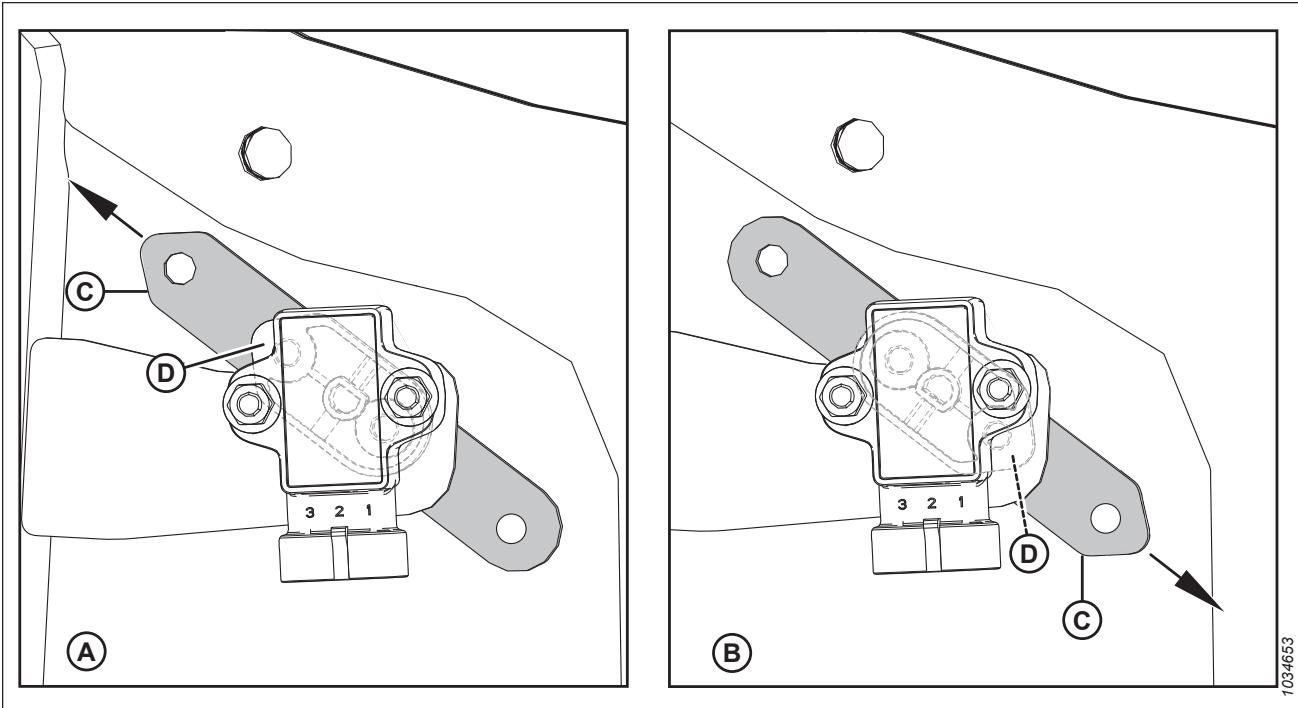

Figure 5.65: Sensor Arm/Pointer Configurations
3. Ensure that sensor arm (C) and pointer (D) are configured properly for the paired combine. For instructions, refer to Figure 5.65, page 132.